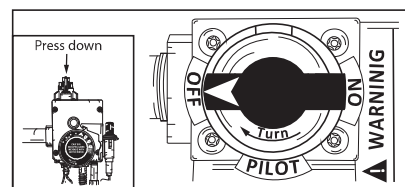

Figure 47 - Temperature Control Knob
- 5 Drain the water heater. Refer to the "Draining and Flushing the Water Heater" section in the water heater owners manual. (See Figure 47).